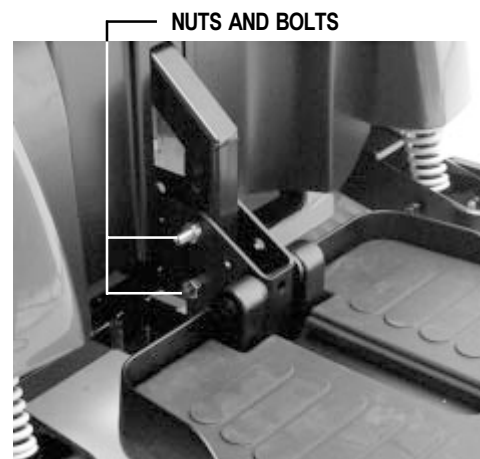

Figure 21. Footrest Height
1. Remove the nuts and bolts from bracket. See figure 21.
1. Remove the nuts and bolts from the bracket. See figure 21.